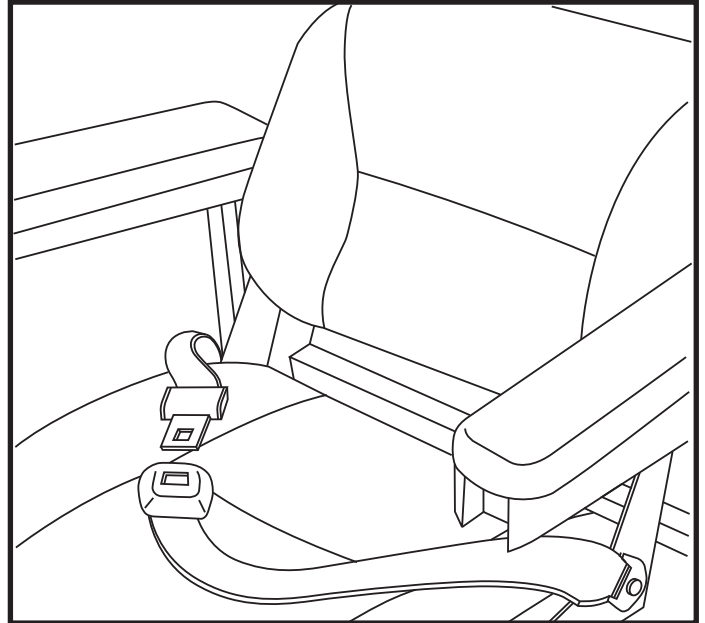

Figure 20. Positioning Belt
Your power chair may be equipped with a positioning belt that can be adjusted for operator comfort. **See figure 20.** The positioning belt is designed to support the operator so that he/she does not slide down or forward in the seat. The positioning belt is not designed for use as a restraining device.
1. Once seated, insert the metal tab on one side of the belt into the plastic housing on the opposite side until you hear a click. **See figure 20.**